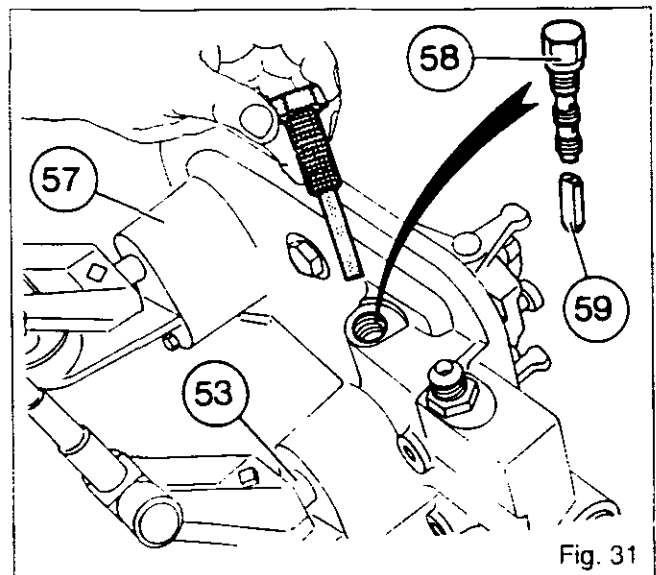

Fig. 31
103. Take out pressure valve (58) and remove plunger (59) (Fig.31).
104. Clamp actuating shaft (53) in the B position with tool 3615053 M01 (Fig.31). Tighten down moderately hard.